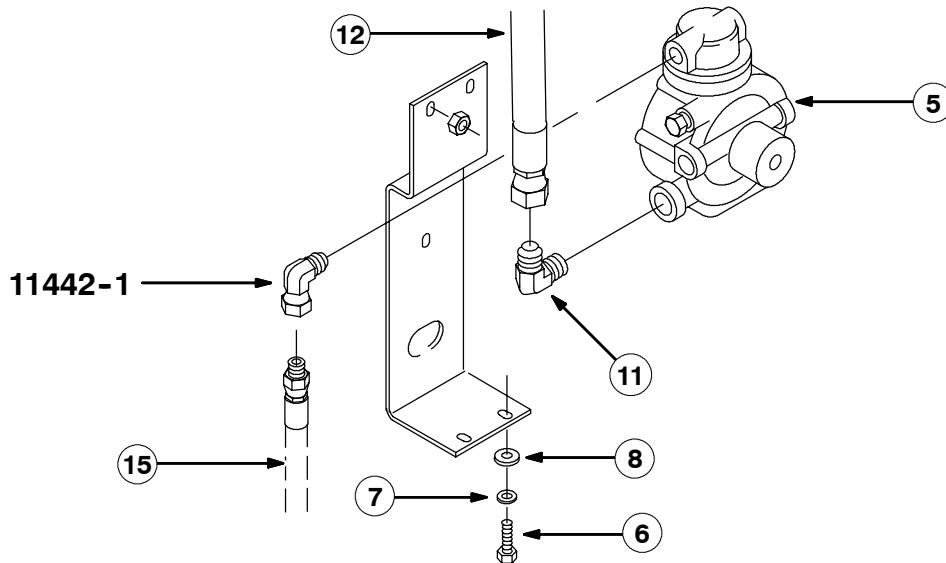

FIG. 6 - INSTALLATION, 90° FITTINGS, VAPORIZER/LOCKOFF
(Refer to FIG. 6 and 10)
7. Install the 90° fitting (11442-1) for the LPG hose(15) from LPG tank. (Refer to FIG. 6 and 10)
8. Mount the new vaporizer/lockoff assembly (5) to the vaporizer/lockoff mounting bracket (1) with two hex screws (6), lock washers (7) and flat washers (8). (Refer to FIG. 6 and 10)